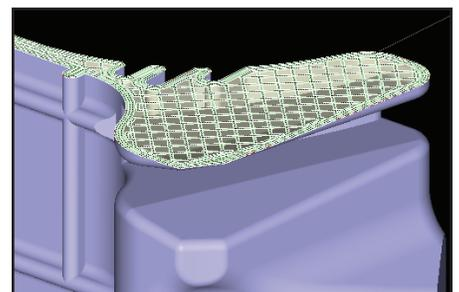

Figure 44: Part with Sparse – double dense fill.
5.2.3. Sparse – double dense (Figure 44)